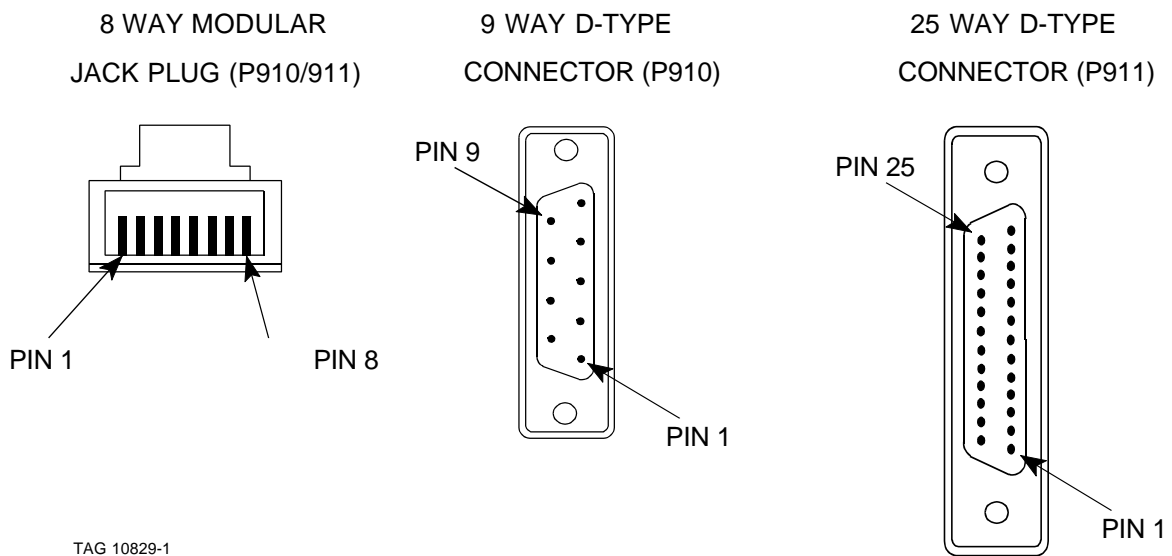

Figure 4: P910/P911 Connector Pin Layouts
29. Connection details for cable assemblies P910 and P911 are shown in Tables 2 and 3. Pin layout is illustrated in Figure 4.